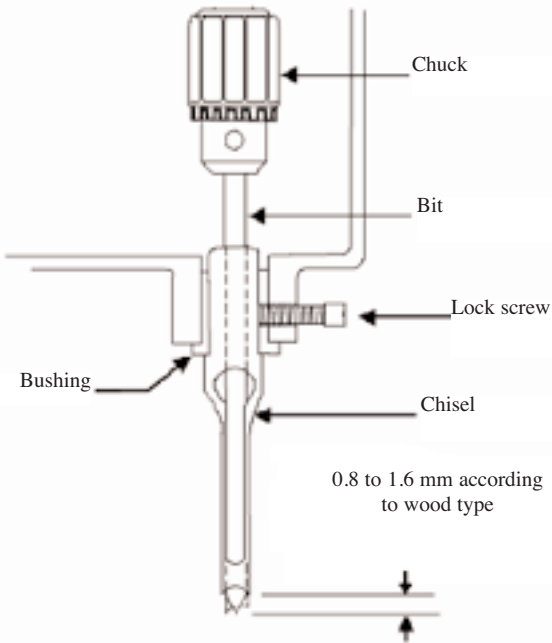

Figure 2
1. Loosen lock screw, shown in Figure 2.